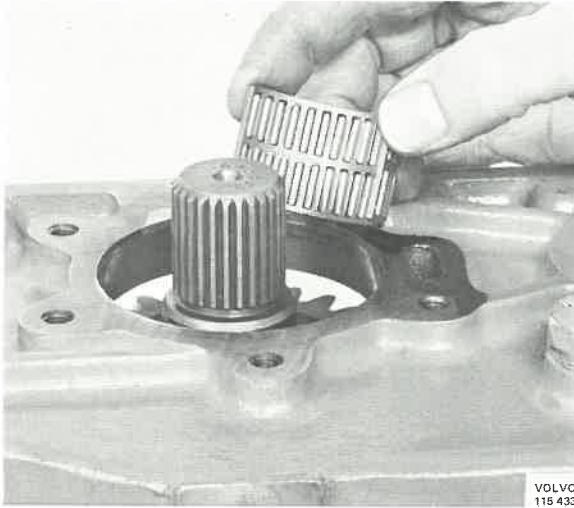

Fig. 43-194. Fitting needle bearings
- needle bearings and fit them in position, Fig. 43-194.